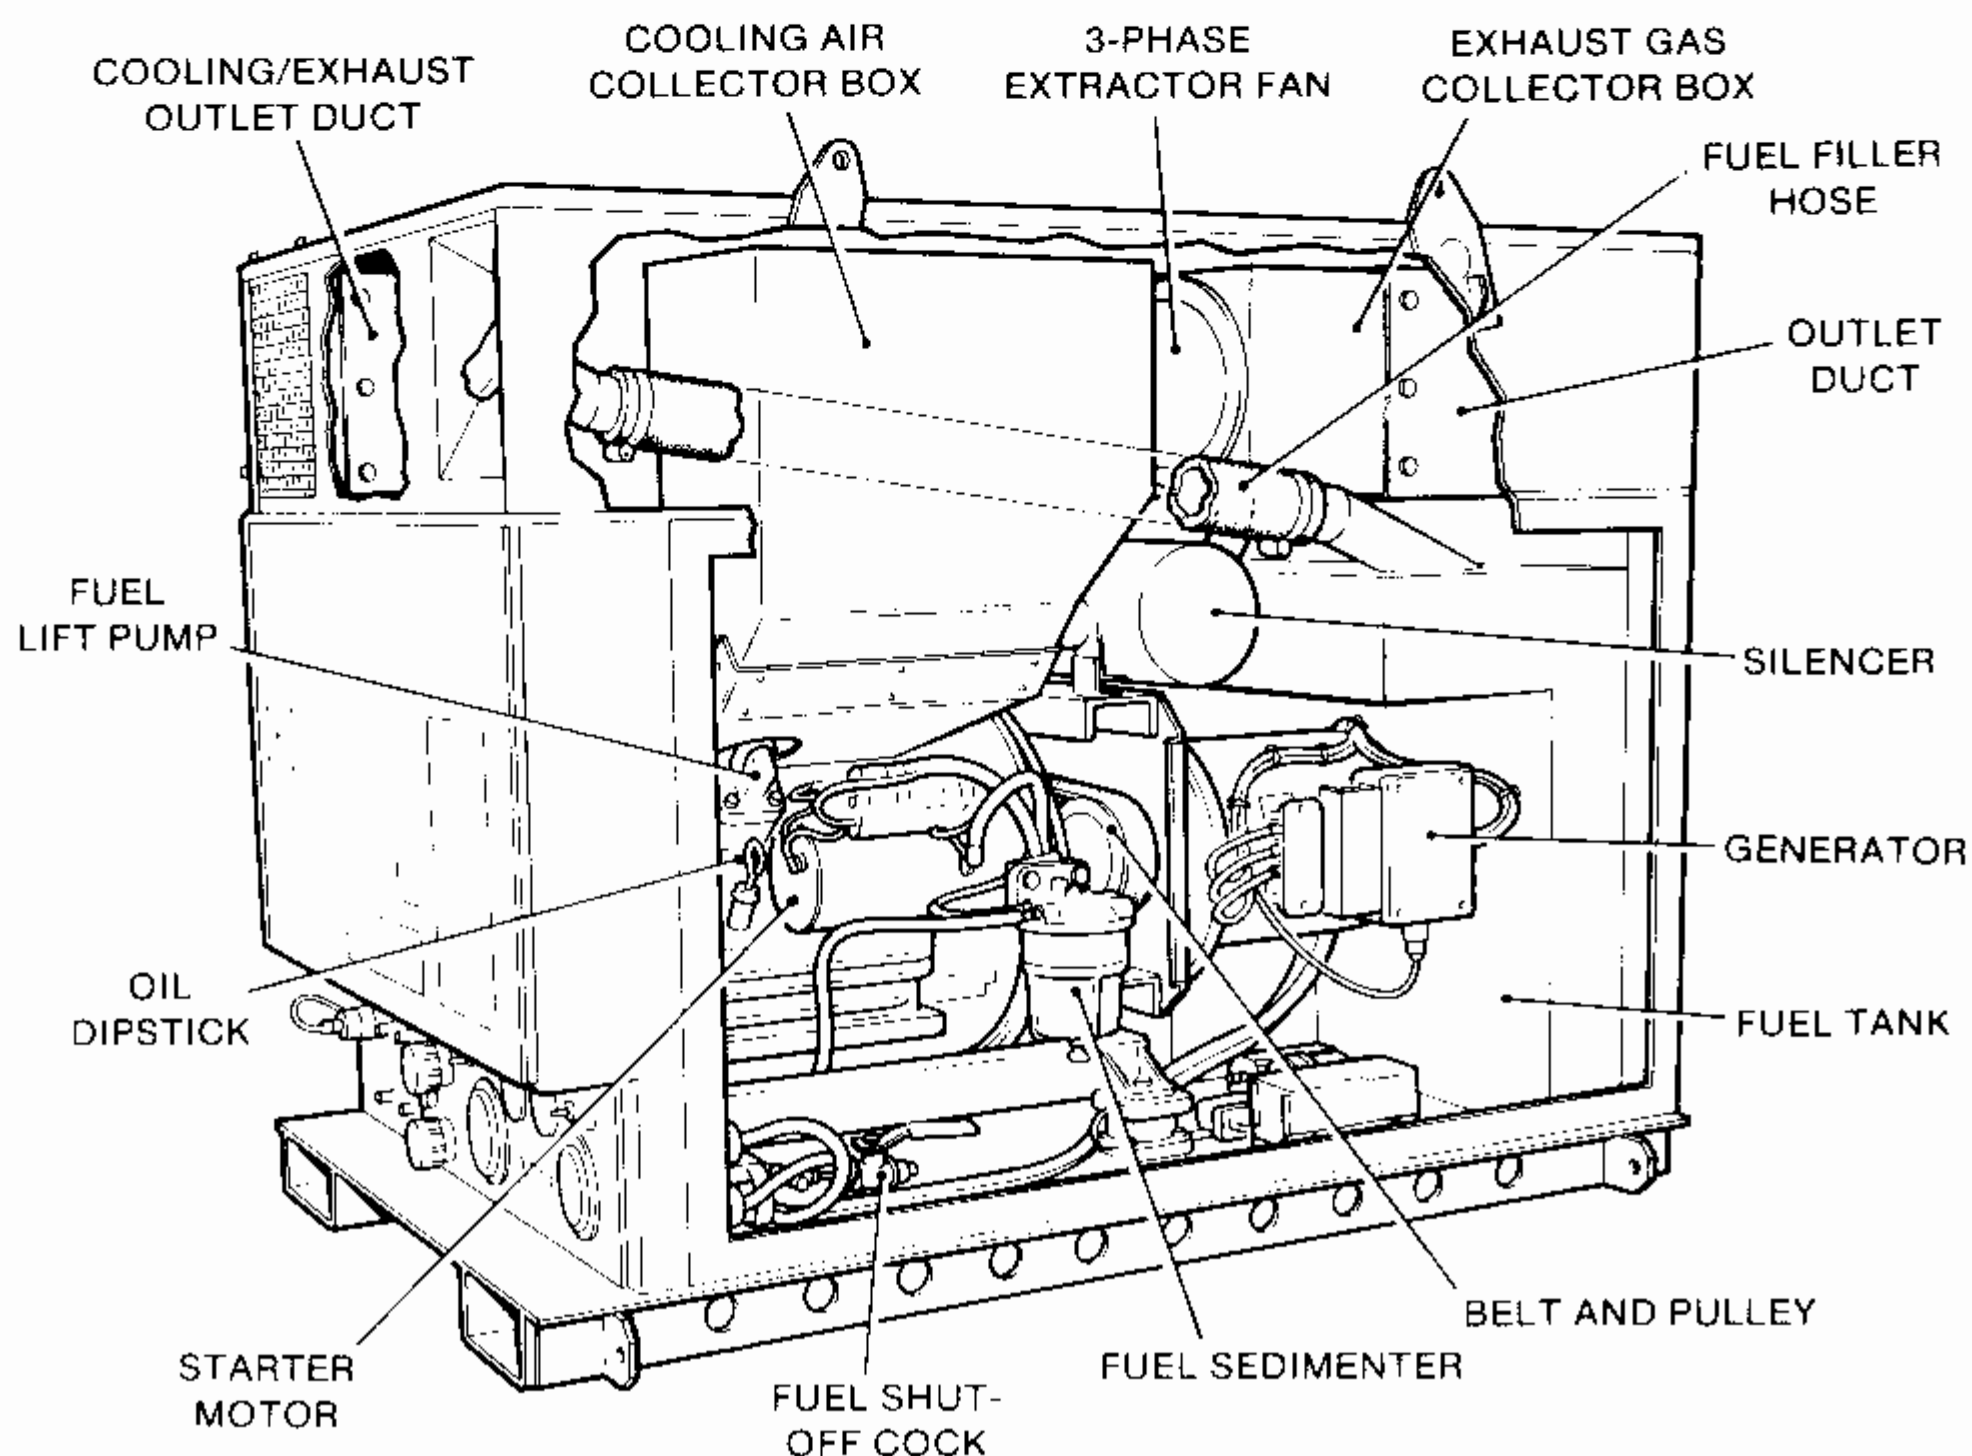
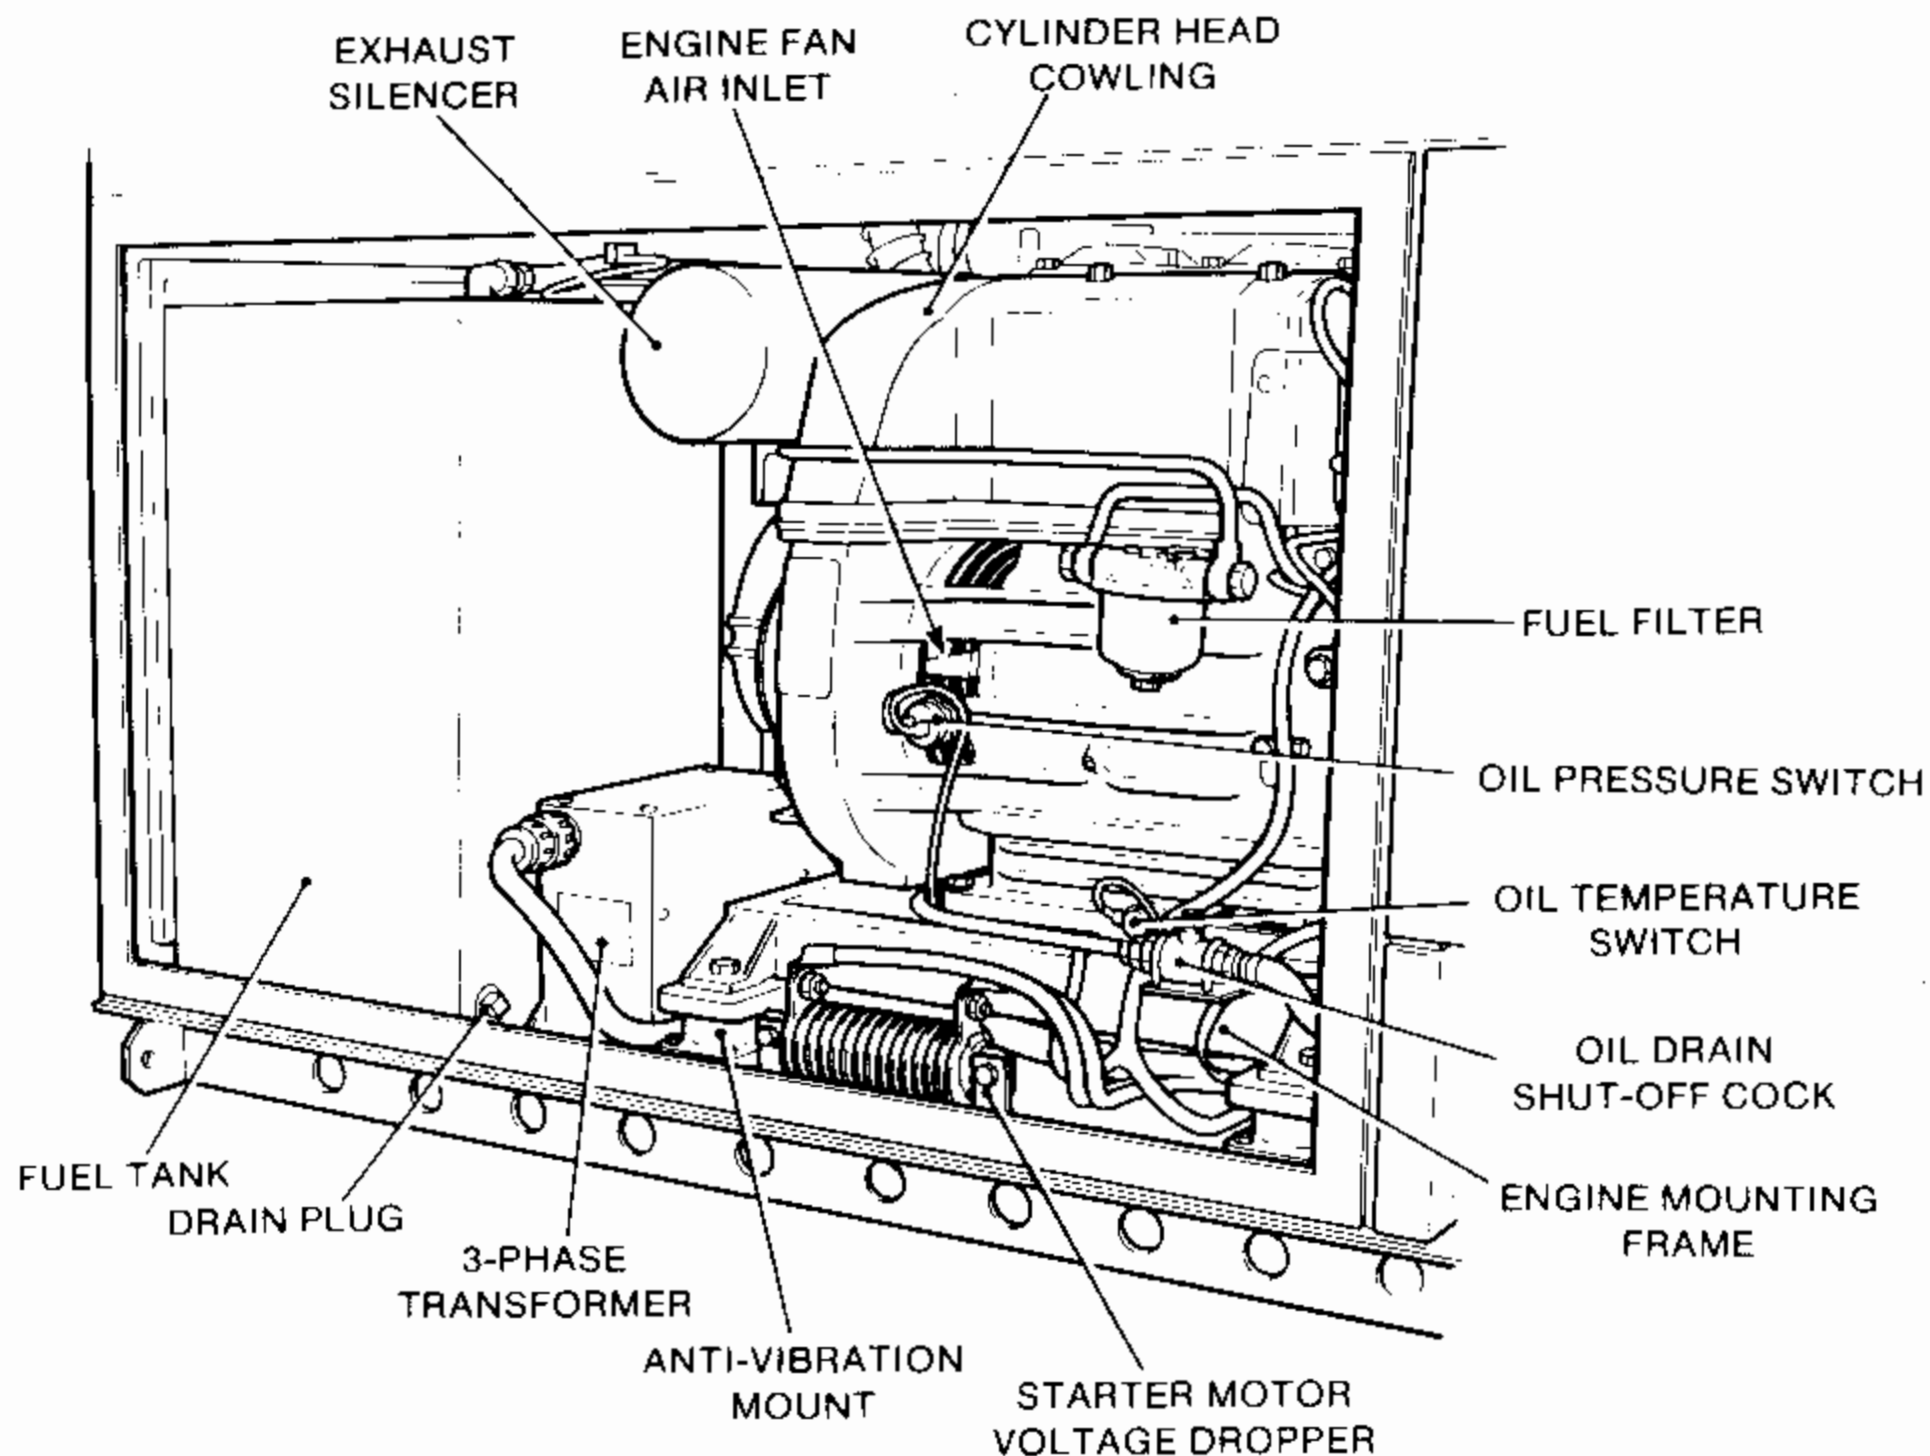

Fig 2 Internal arrangement (RHS)
Fig 3 Internal arrangement (LHS)
2. The acoustic cover consists of a top cover assembly bolted to a support frame, together with detachable side and rear panels, and a large front door for access to the engine. To facilitate vertical lifting of the generator set, four anchor plates are fitted to the top cover. The plates are connected to lugs on the baseframe by adjustable tie bars. A small door for access to the top of the engine is installed in the top cover. The top cover also incorporates a fan-assisted extraction system (see Fig 2) for the engine cooling and exhaust systems. Air inlet apertures are provided in each of the side covers. An exhaust extension assembly (separately stowed) is provided for venting the exhaust fumes to atmosphere, when operating the generator set in confined spaces.
INTERNAL ARRANGEMENT (Figs 2 and 3)
COOLING AND EXHAUST EXTRACTION (Figs 2 and 3)
ENGINE ASSEMBLY (Figs 3 and 4)
12.1 Engine protection switches (Fig 3). An oil pressure switch and an oil temperature switch are fitted. These switches are connected into the generator set fault protection and warning circuit. The installation of these switches facilitates unsupervised operation of the engine.
12.4 Oil drain pump (Fig 4). Gravity draining of the engine oil sump is not possible and a hand pump is provided for this purpose. The pump is used in conjunction with a shut-off cock (Fig 3), connected in the sump-to-pump drain line.
12.5 Fuel sedimenter. The basic engine incorporates a fuel filter (Fig 3). Additionally, pre-filtration is provided by a fuel sedimenter, installed on the right hand side of the engine (Fig 2) and connected between the fuel tank and lift pump. The fuel drawn from the fuel tank by the lift pump may contain water and dirt. The sedimenter removes the water and large particles of dirt (sediment from the fuel tank). The water and dirt accumulate in the lower part of the sedimenter, and can be drained off by means of a tap underneath the sedimenter. Fine particles of dirt are removed by the fuel filter which contains a replaceable element.
26. A 3-phase power transformer (Fig 3) is provided to raise the 21 V line-to-line A.C. output from the generator, to 200 V line-to-line (115 V line-to-neutral). The transformer windings are enclosed in a metal box, which incorporates louvres for convection cooling. A plug is provided for the input connections and a socket for the output connections.